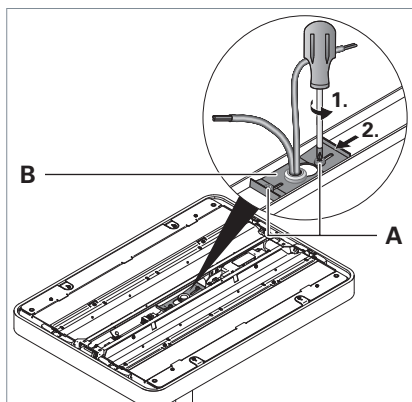

Fig. 21: Dismounting the light head from a light with central connection
- Unscrew both screws **A** from the retaining strap **B**, see Fig. 21.
- Push the retaining strap all the way to the other side, see Fig. 21.